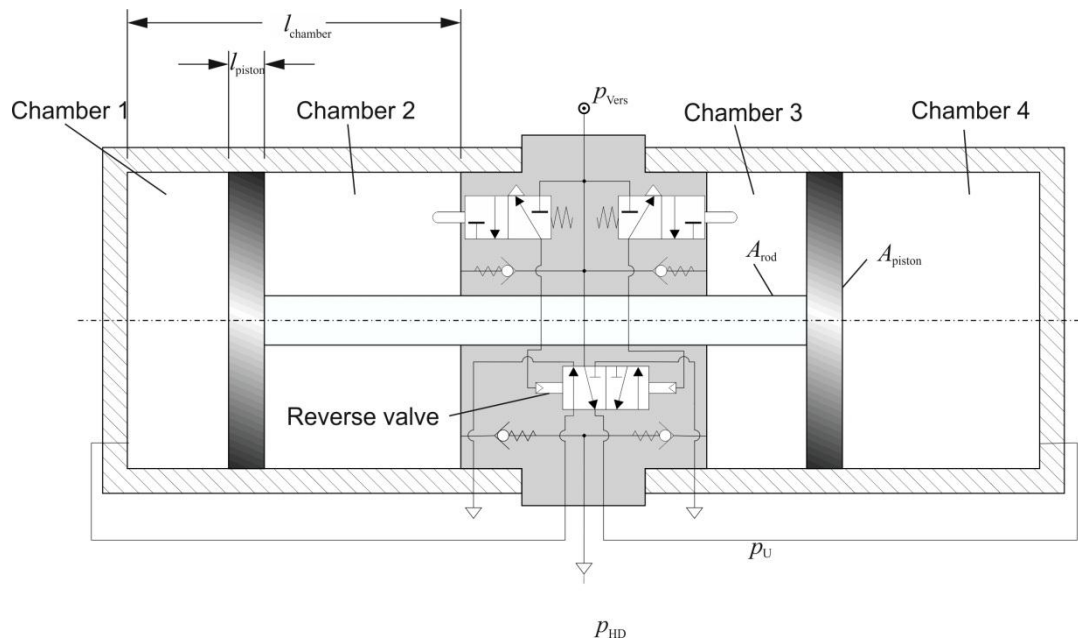

Fig. 5.1: Pressure Intensifier
Fig. 5.1 shows schematically a symmetrical constructed pressure intensifier. It transforms the supply pressure p_{Vers} onto a higher pressure level p_{HD} by connecting the chambers 1 till 4 in a way that always two chambers intensify the volume of a third chamber.
5.6 Give the specific appellation of the reverse valve in Fig. 5.1 an. (1,5 Points)